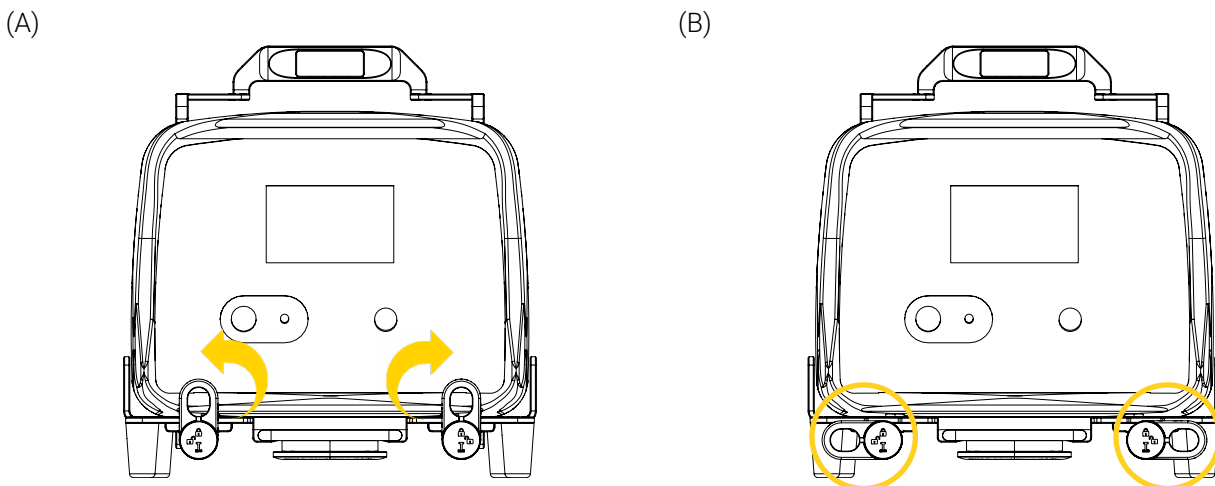

Figure 9: Unlocking the BP310 – FL
1. Unlock the mounting bracket using the rotary locks (Figure 9). Refer to the « Safety Mechanism » section on page 17 if need.